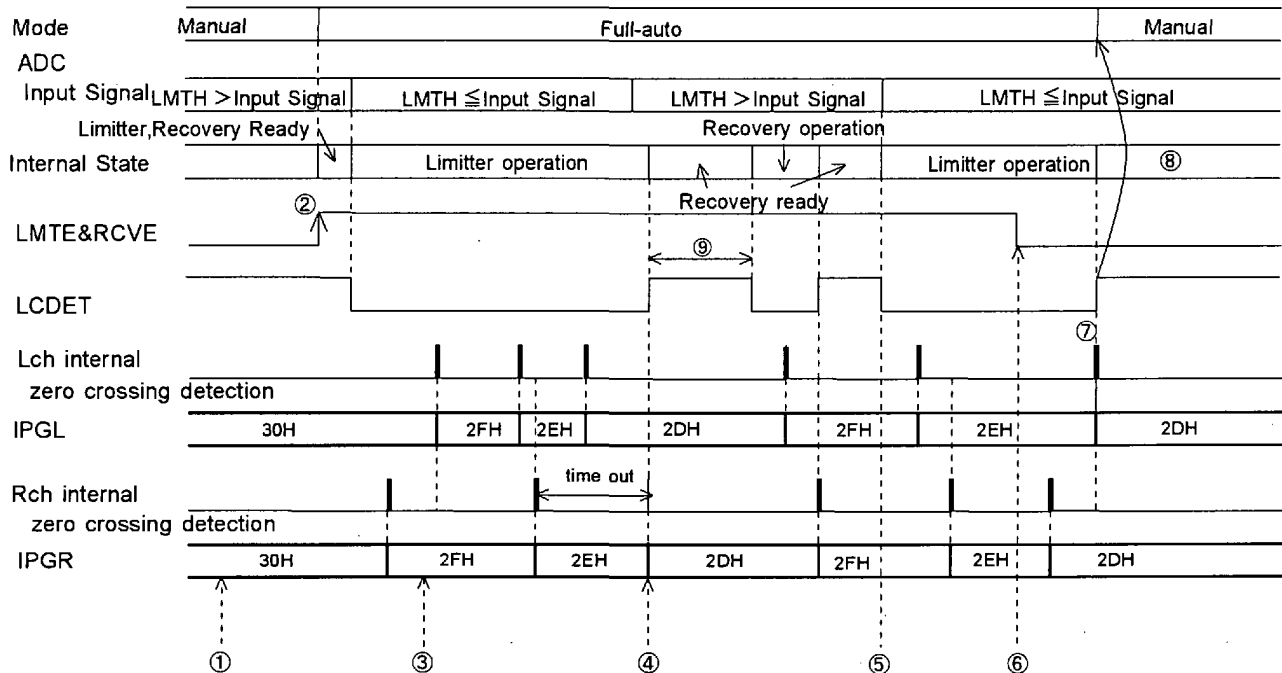

Figure 9 . Control example of full-auto mode operation (LMAT=RATT: 1 step, ZENM=ZELM="1")
- ② WR(LMTE=RCVE="1"): After the registers concerned in the auto limiter operation is set up and confirming the zero crossing flags(ZFIPL, ZFIPR)="1", LMTH and RCVE are set "1".
- ③ WR(IPGA="31H"):As the operation is full-auto mode, writing by uP is ignored.
- ④ The ready of recovery starts.
- ⑤ As the input signal of ADC exceeds LMTH, the recovery operation (in the figure, recovery ready) is discontinued and the limiter operation starts.
- ⑥ WR(LMTE=RCVE="0"):The full-auto mode operation is completed.
- ⑦ In Figure 9 , since "0" is written to LMTE& RCVE during the ATT operation, the operation changes to the manual mode after completing ATT operation. After confirming LCDET="1", it is possible to change the each register set-up. If LMTE&RCVE are set "0" during the full-auto mode operation, LCDET becomes "1" after the max "1" ATT/GAIN operation is completed by internal state.
- ⑧ In this case, the input signal of ADC exceeds LMTH, the auto limiter does not operate because of LMTE=RCVE="0".
- ⑨ After the limiter operation is completed, the AK4516A waits for the time set by WTM1-0. If the input signal does not exceed (LMTH - 2dB), the recovery operation is executed. After the waiting time finishes the next waiting time starts immediately. In recovery ready, the waiting timer is reset under the condition of (LMTH - 2dB) ≤ Input Signal < LMTH. And the timer starts under the condition of (LMTH - 2dB) > Input Signal.